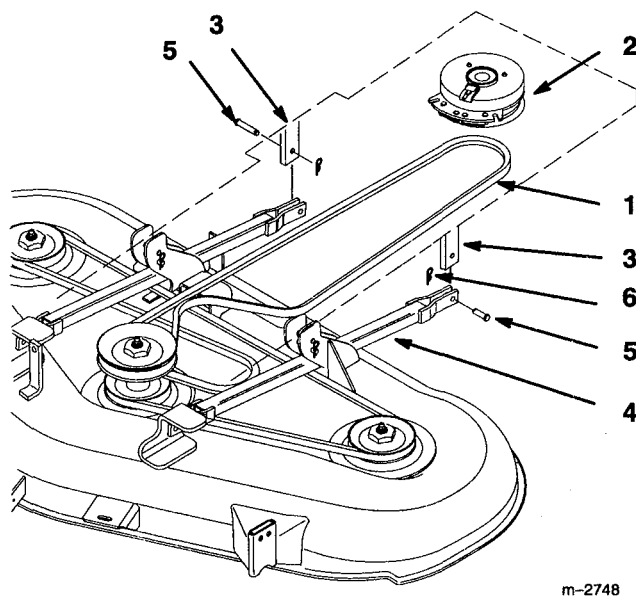

Figure 3
1. Remove (2) wing nuts and washers on footrest panel and remove panel from frame.
3. Secure stabilizer bars to traction unit frame mounts with (2) 3/8"-1-1/4" (32 mm) clevis pins and (2) hairpin cotters (Fig. 3).
4. Secure stabilizer bars to holes in front mower brackets with (2) 3/8"-1-1/4" (32 mm) clevis pins and (2) hairpin cotters (Fig. 3).
9. Route drive belt around top pulley of mower, idler pulleys on pivot plate (Fig. 3) and the clutch drive pulley.